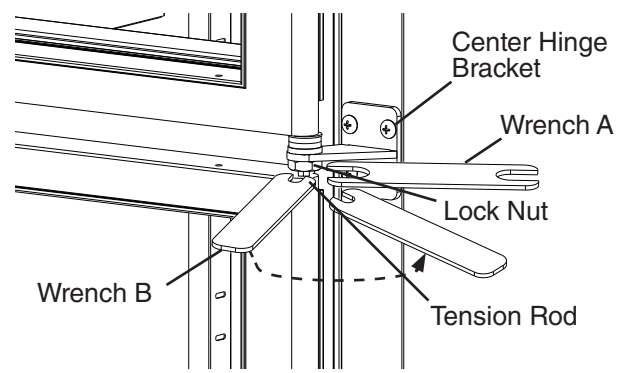

Fig. 48
- 4) Turn wrench B counter-clockwise to relieve tension on the tension rod. Without releasing the pressure on wrench B and the tension rod, use wrench A to tighten the lock nut. See Fig. 48.